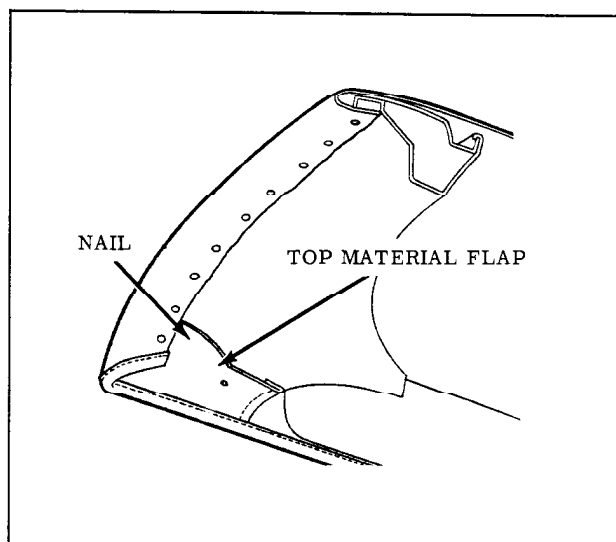

Fig. 17-120 Top Material Attachment To Roof Rail
4. Loosen front end of each side roof rail front weatherstrip sufficiently to detach top material flaps which are nailed and cemented to rails. (Fig. 17-120)